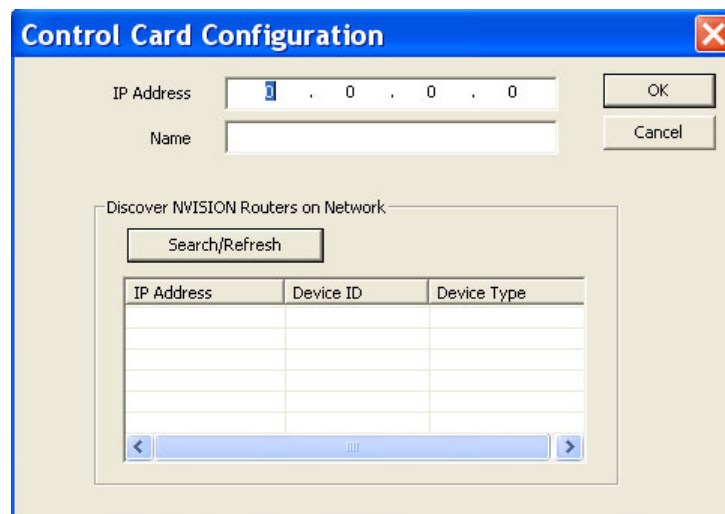

Figure 7-2. Control Card Configuration Dialog Box
- 4 On the 'Control Card' pane, right-click on the control card you want to update and from the pop-up menu select 'Edit Name and IP Address'. The 'Control Card Configuration' dialog box appears, as shown in Figure 7-2.